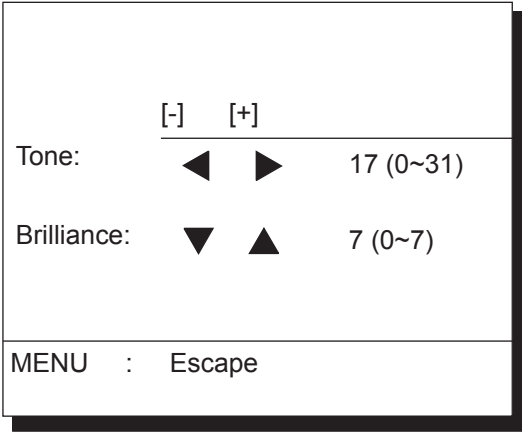

Figure 1-3 Screen for adjustment of display tone and brilliance
- 1) Press the **TONE** key. The display shown in Figure 1-3 appears.